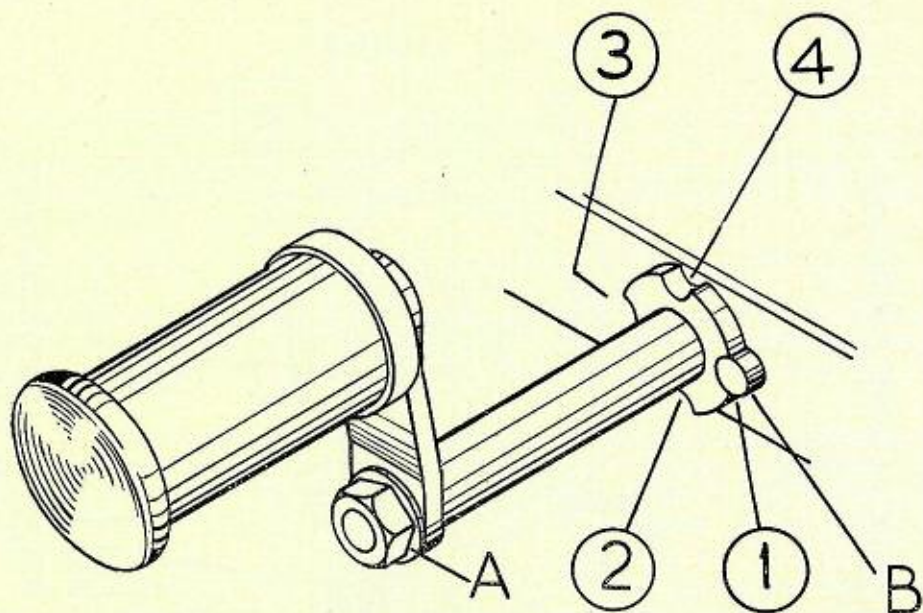

FIGURE 1.
5.—The FOOT RESTS are adjustable to four positions and this adjustment is carried out by first taking off the foot rest bar nuts and turning the foot rest to the desired position and replacing the nuts and tightening securely. (See Fig. 1.)